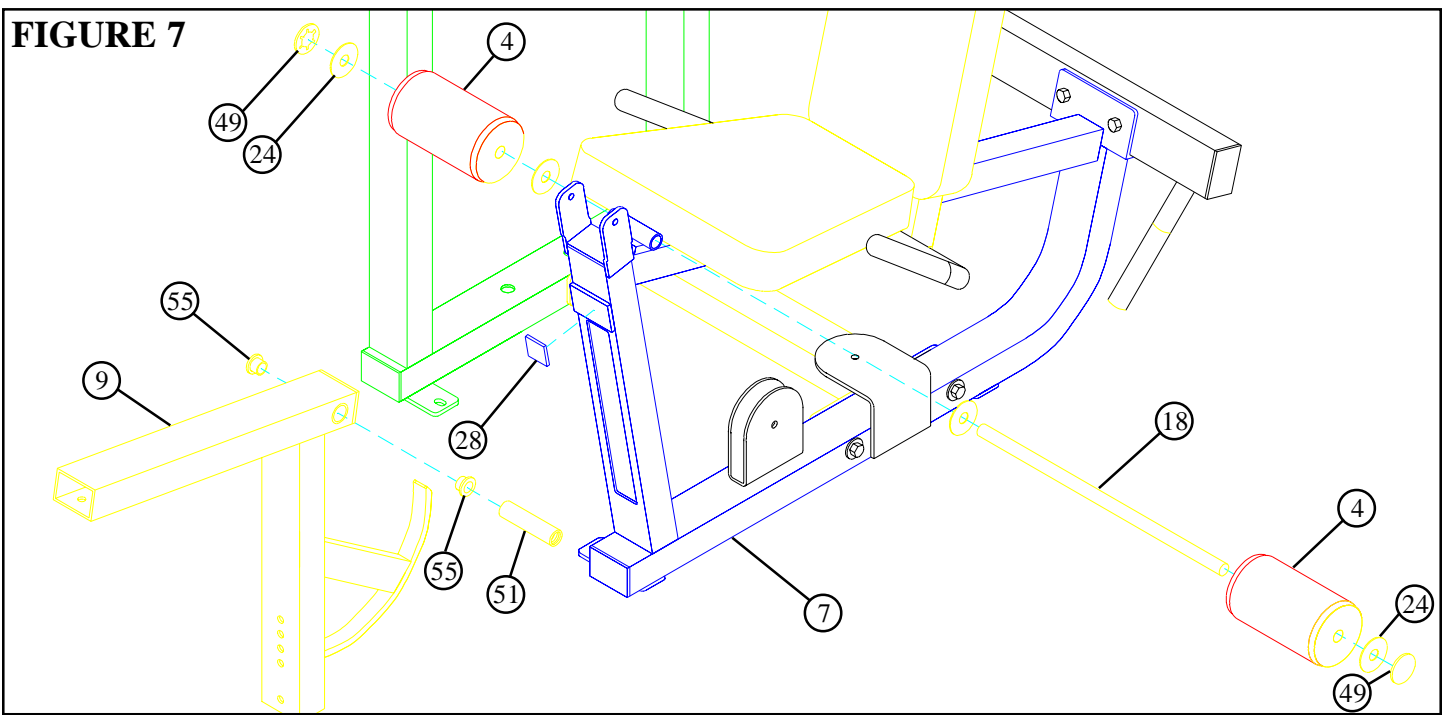

**FIGURE 6**
- **SECURELY** assemble BACK PAD (14) to the RIGHT & LEFT PAD SUPPORTS (12) (13) using four 3/8 X 2-3/4" BOLTS (36) and four 3/8" WASHERS (41) as shown in FIGURE 6.